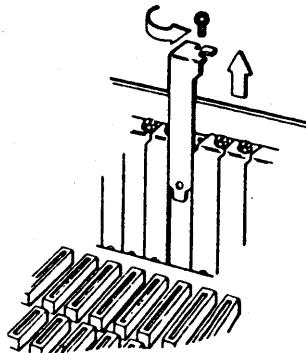

Figure 13: Removing a Slot Cover
4. Locate a vacant expansion slot and remove the slot cover as shown in Figure 13: